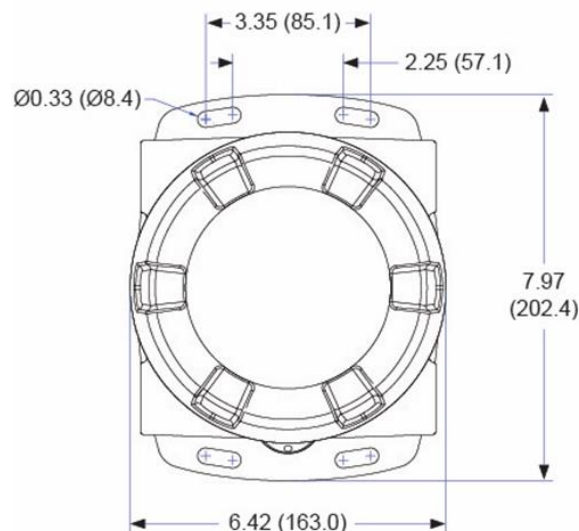
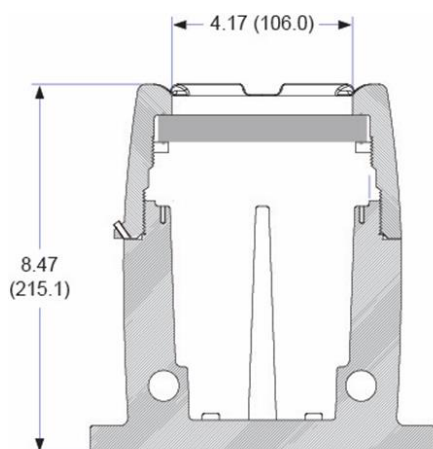

Figure 1. Enclosure Dimensions – Front View
Figure 2. Enclosure Dimensions – Side Cross Section View
The ProtEX-MAX has two slotted mounting flanges that may be used for pipe mounting or wall mounting. Refer to *Figure 1* and *Figure 2* below.
- Prepare a section of wall approximately 7" x 8.5" (178 mm x 216 mm) for scanner mounting by marking with a pencil the mounting holes (shown in *Figure 1*) on the wall.
- Select the appropriate mounting screws for the mounting surface to be used. The mounting holes diameter is shown on *Figure 1*.